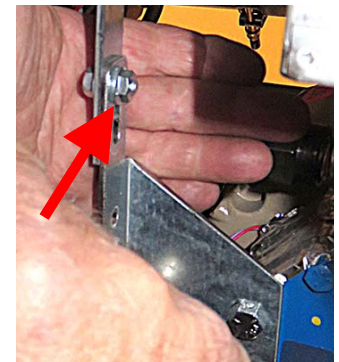

Figure 5
7. Use a 7/16" wrench to remove the nut and bolt from the filter pump shipping bracket (see Figure 5).